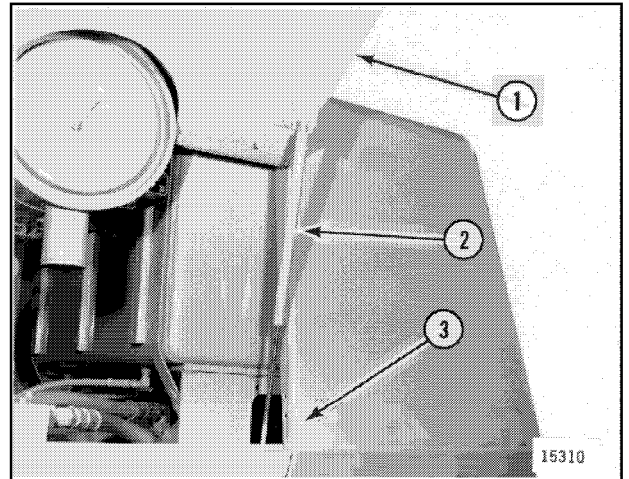

Figure 27
12. Support hood side (1, Figure 27) and install gas spring door prop (2) between hood side and rear cowl (3).